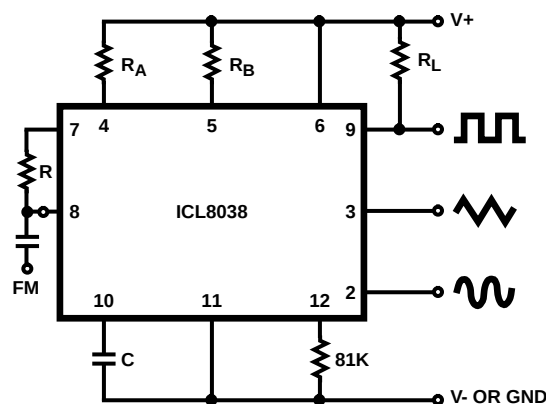

FIGURE 5A. CONNECTIONS FOR FREQUENCY MODULATION
- $V_{\text{SUPPLY}} = 20\text{V}$ ;  $R_A$  and  $R_B = 10\text{k}\Omega$ ,  $f \approx 10\text{kHz}$  nominal; can be extended 1000 to 1. See Figures 5A and 5B.
The frequency of the waveform generator is a direct function of the DC voltage at Terminal 8 (measured from V+). By altering this voltage, frequency modulation is performed. For small deviations (e.g. ±10%) the modulating signal can be applied directly to pin 8, merely providing DC decoupling with a capacitor as shown in Figure 5A. An external resistor between pins 7 and 8 is not necessary, but it can be used to increase input impedance from about 8kΩ (pins 7 and 8 connected together), to about (R + 8kΩ).